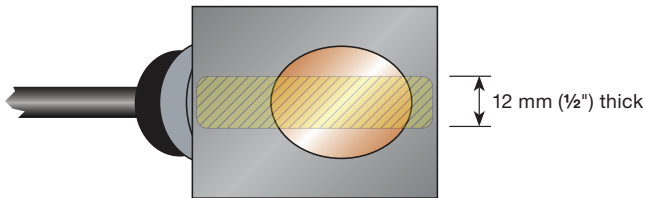

Fig. 22 Application of couplant
- 4) Place a single bead of couplant, approximately 12 mm ($\frac{1}{2}$ ") thick, on the flat face of the transducer. See Fig. 22.